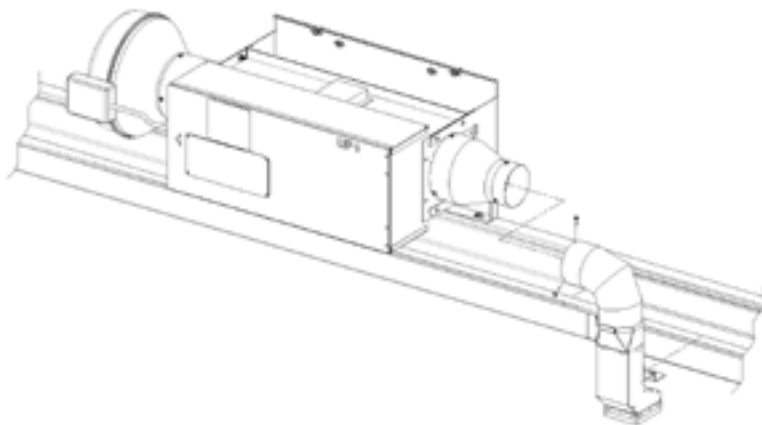

Figure 4: Mounting Center Duct of Heater
6. Slide center duct assembly onto rails to the right of the center of the header. Loosen bolts & raise mounting bracket if needed to clear rod on end of rail. (Figure 4)
7. Slide center duct assembly towards heater assembly so that end of reducer on heater mates inside of 90° elbow on duct assembly. Use 3 sheet-metal screws to attach elbow to reducer. (Figure 4)